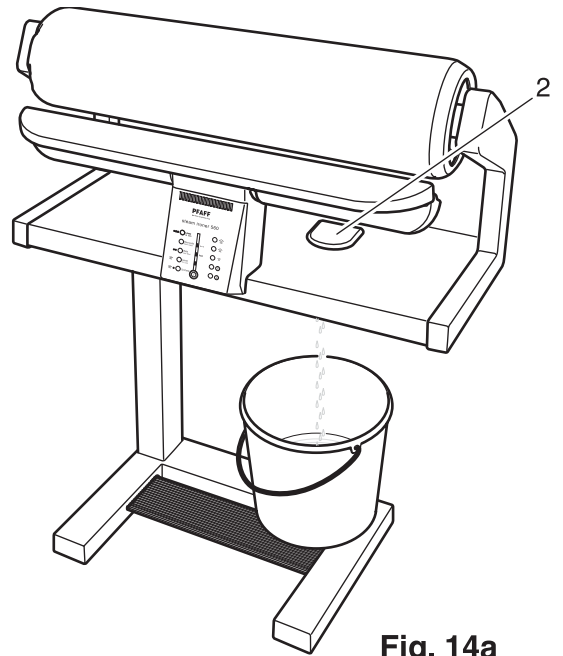

Fig. 14a
- Set up the steam ironer in a working position (fig. 14a).